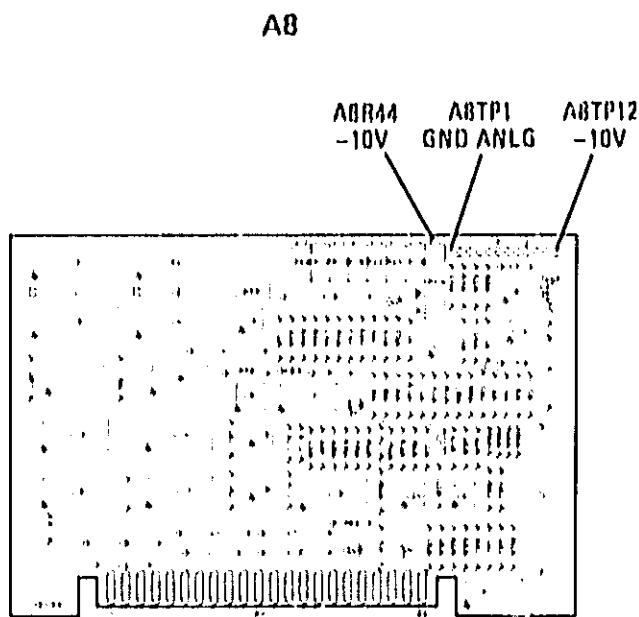

Figure 5-2. -10V Reference Adjustment Location
2. Adjust A8R44 -10V for a DVM reading of -10 ± 0.001 Vdc. Refer to Figure 5-2 for -10 volt reference adjustment location.